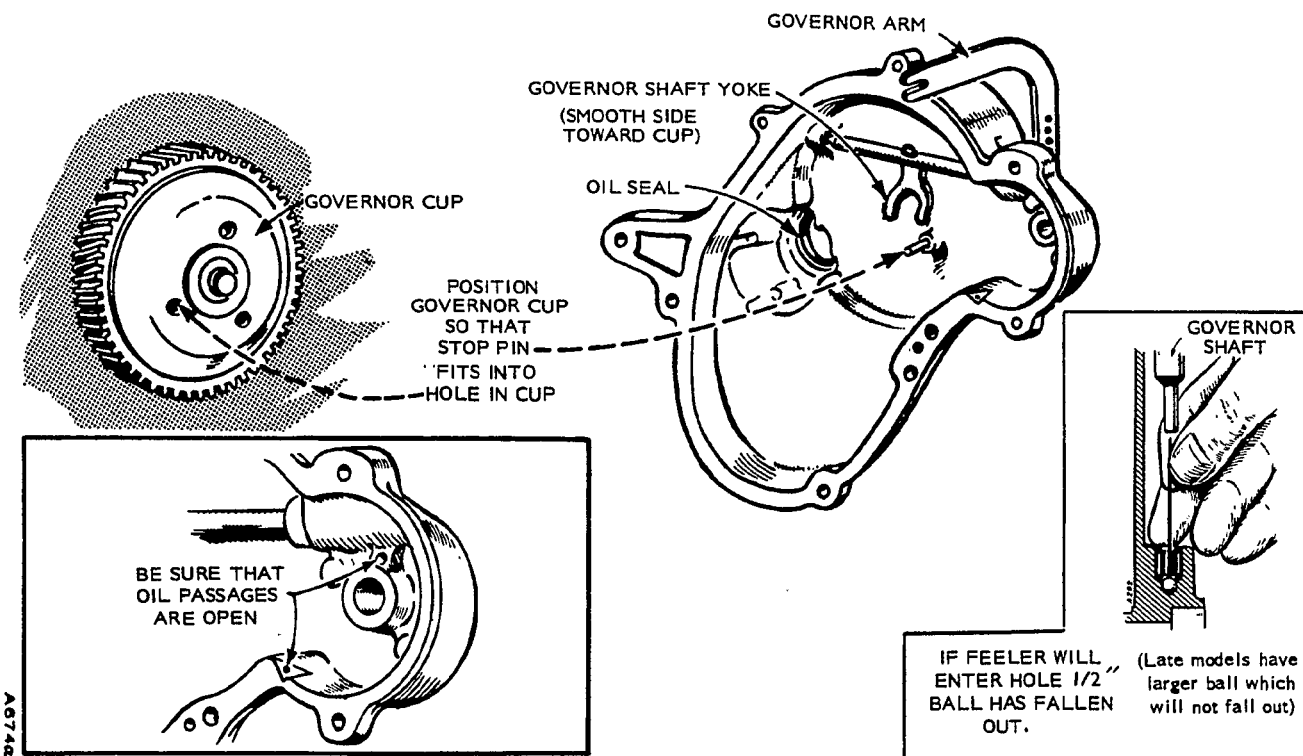

FIGURE 97. GEAR COVER ASSEMBLY
1. Operate governor shaft to check for binding and see that governor shaft end thrust ball is in place (Figure 97).
3. Use an oil seal driver (or a piece of shim stock over crankshaft keyway) to protect oil seal and install gear cover. Tighten mounting screws to specified torque. Before tightening screws, be sure stop pin is in governor cup hole (Figure 97).